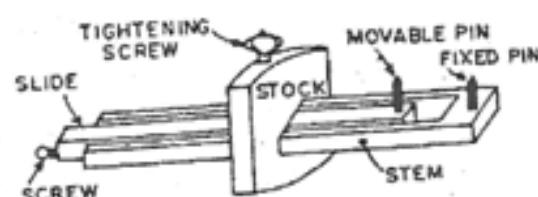

Fig 19 Mortise gauges
7. **Mortise gauge.** It is an improved form of marking gauge. In addition to the provisions of a marking gauge, it carries a significant feature in that instead of only one scrubbing pin it has two, one of which is fixed as usual and the other is movable. The movable pin can be adjusted at any point between the stock and the fixed pin by means of a thumb screw provided at the end of the stem (see Fig. 19). Thus the two pins can be set at any desired distance apart. This enables scribing to two parallel lines, at a required distance from one another and at a desired distance from an edge or surface, in a single operation. Its specific use is in making mortises and tenons and other similar joints requiring such parallel lines.